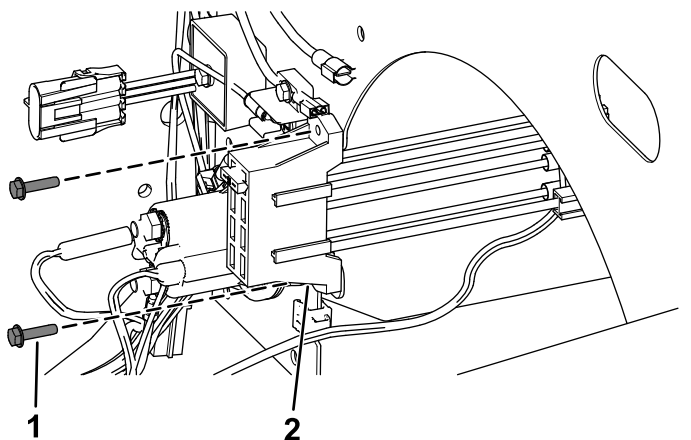

Figure 21
- **For machines with Serial No. 403448001 and after**, secure the new fuse block using the 2 self-tapping screws as shown in Figure 21.